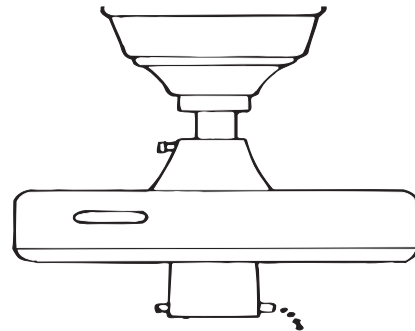

Figure 17
3. Reversing your fan is controlled by a small switch located on the switch housing. See Figure 17.